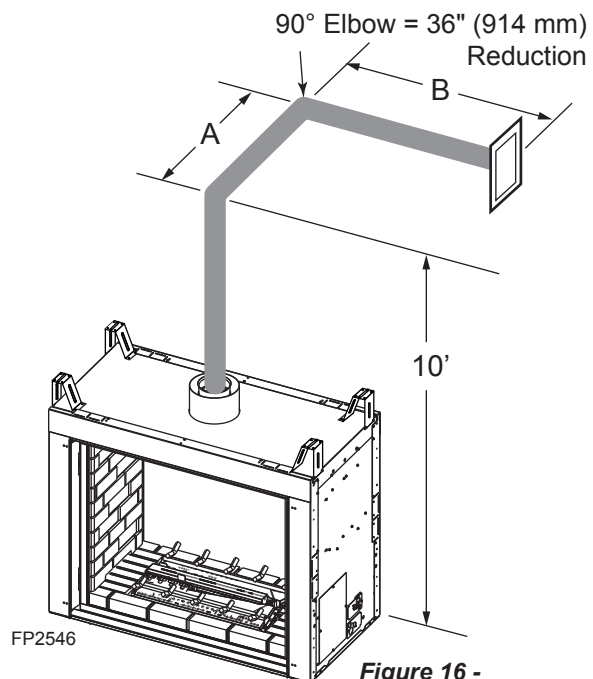

Figure 16 -
- If a 90° elbow is used in the horizontal vent run (level height maintained) the horizontal vent length is reduced by 36". Refer to *Figure 16*. This does not apply if the 90° elbows are used to increase or redirect a vertical rise.
In *Figure 16* dimension A plus B must not be greater than 14½' (4.4 m).